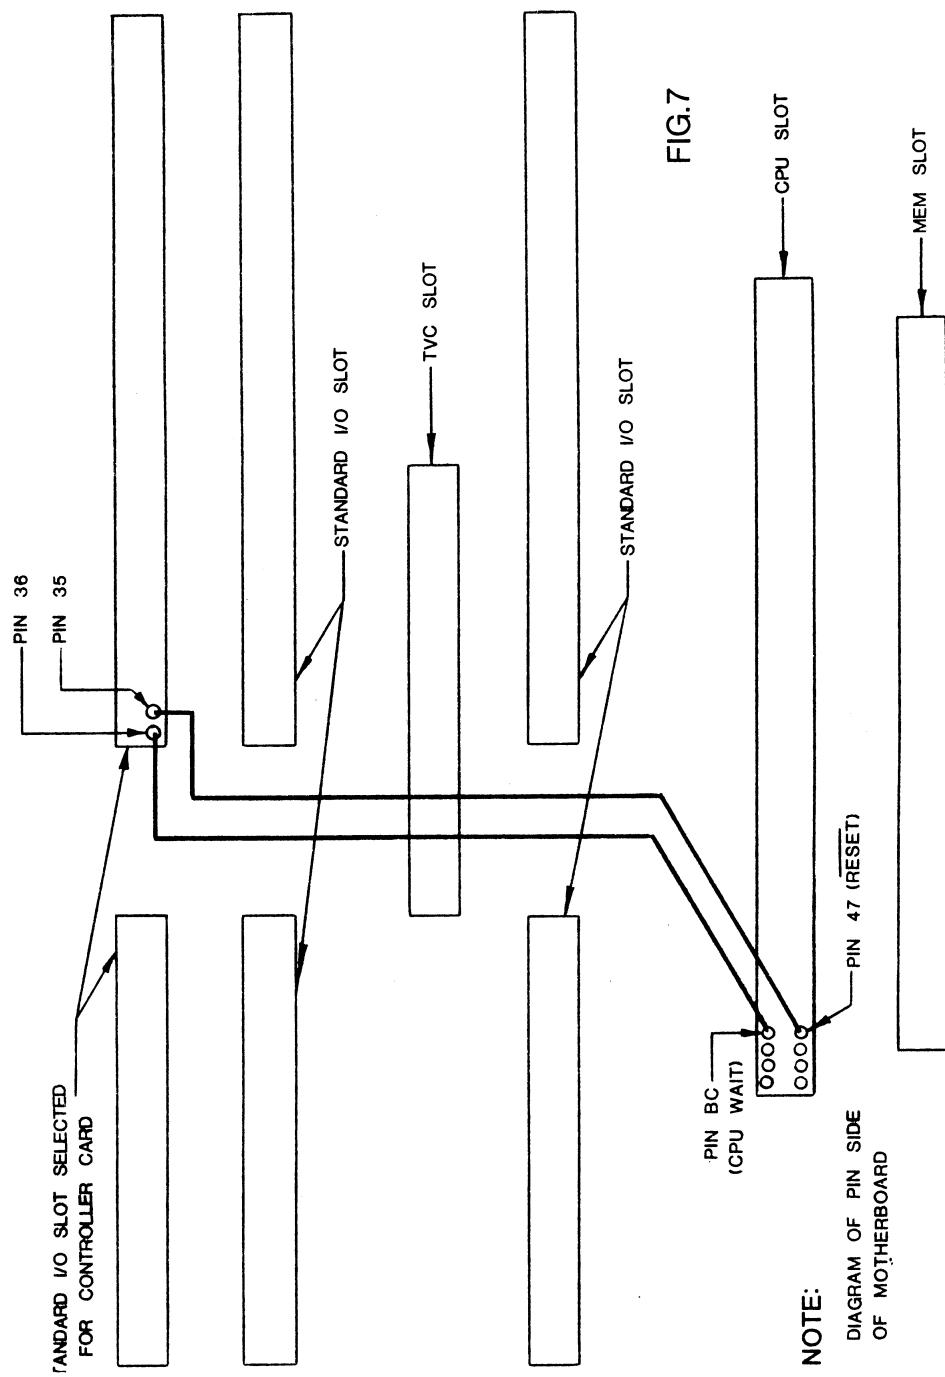

FIG.7
6. Add a jumper wire from the CPU edge connector (pin BC) to the controller card edge connector (pin 36) CPU WAIT line. See Figure 7.
7. Add a jumper wire from the CPU edge connector (pin 47) to the controller card edge connector (pin 35) RESET line. See Figure 7.